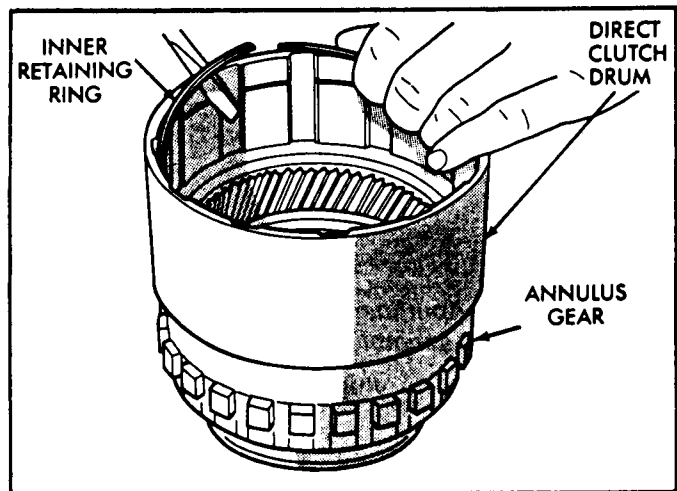

Figure 20
27. Remove the direct clutch drum inner retaining ring (See Figure 20).